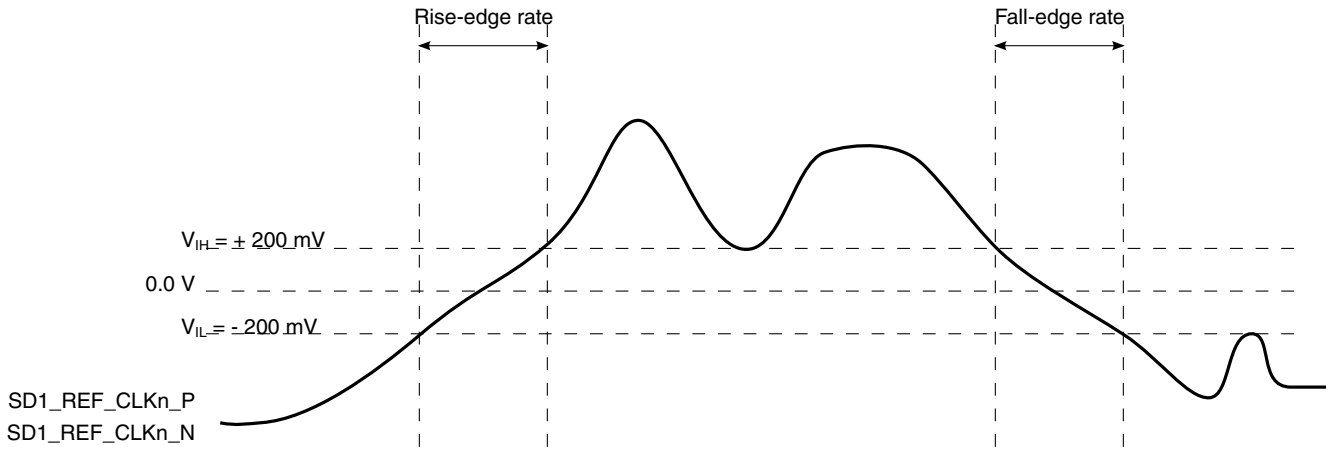

Figure 37. Differential measurement points for rise and fall time
- Measured from -200 mV to +200 mV on the differential waveform (derived from SD1_REF_CLKn_P minus SD1_REF_CLKn_N). The signal must be monotonic through the measurement region for rise and fall time. The 400 mV measurement window is centered on the differential zero crossing. See Figure 37.